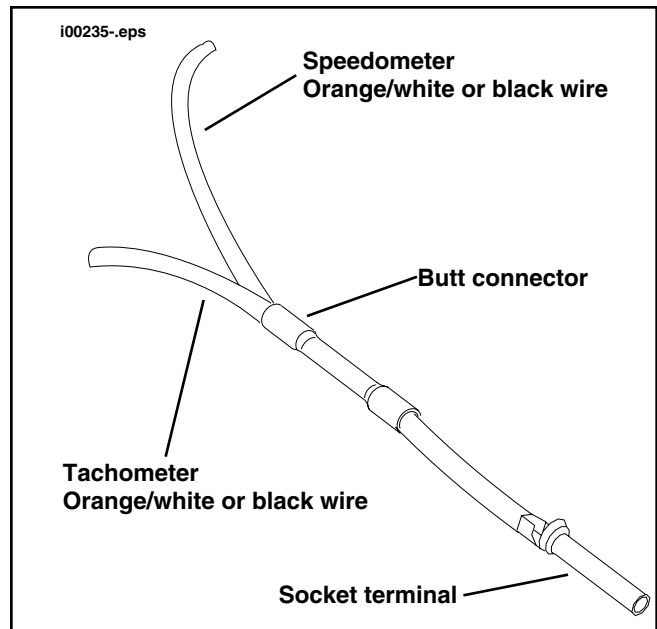

Figure 6. Connect Speedometer and Tachometer Wires
- 8c. See Figures 6 and 2. Use one of the butt connectors from the kit and connect the ground leads as shown. Refer to "SEALED BUTT CONNECTORS" in the appropriate Service Manual for complete procedure.
8b. See Figures 6 and 2. Use one of the butt connectors from the kit and connect the ground leads as shown. Refer to "SEALED BUTT CONNECTORS" in the appropriate Service Manual for complete procedure.